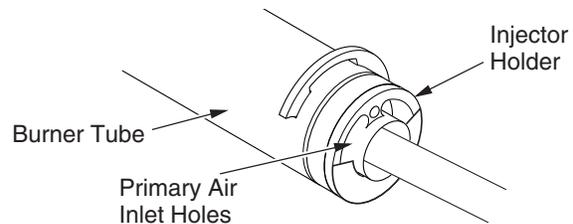

Figure 46 - Injector Holder On Outlet Burner Tube - Rear Burner
2. Inspect burner, pilot, and primary air inlet holes on injector holder for dust and dirt (see Figures 46 or 47).